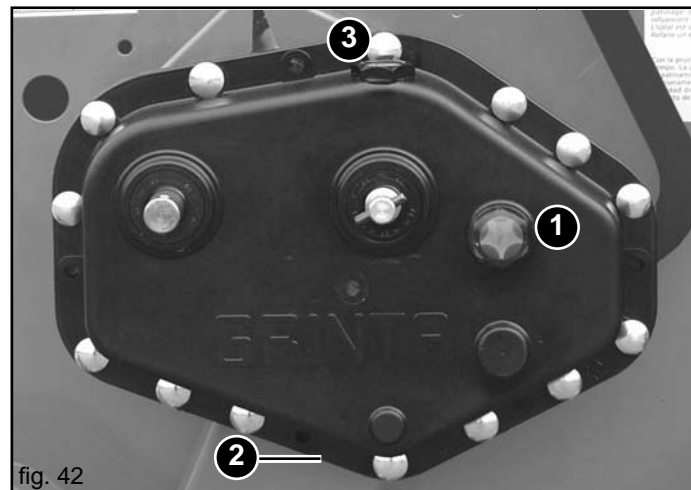

fig. 42
- Check the oil level in the gearbox and top up to level (Fig. 42, «1») whenever necessary using the same type of oil (ACER 22) whenever possible.
- oil drainage plug, 2 Fig. 42;
- oil filling plug, 3 Fig. 42.